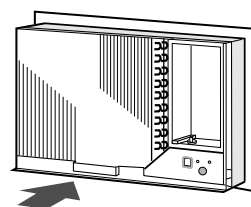

Fig.10
- (1) Slide the chassis back into the cabinet. (Fig. 10)